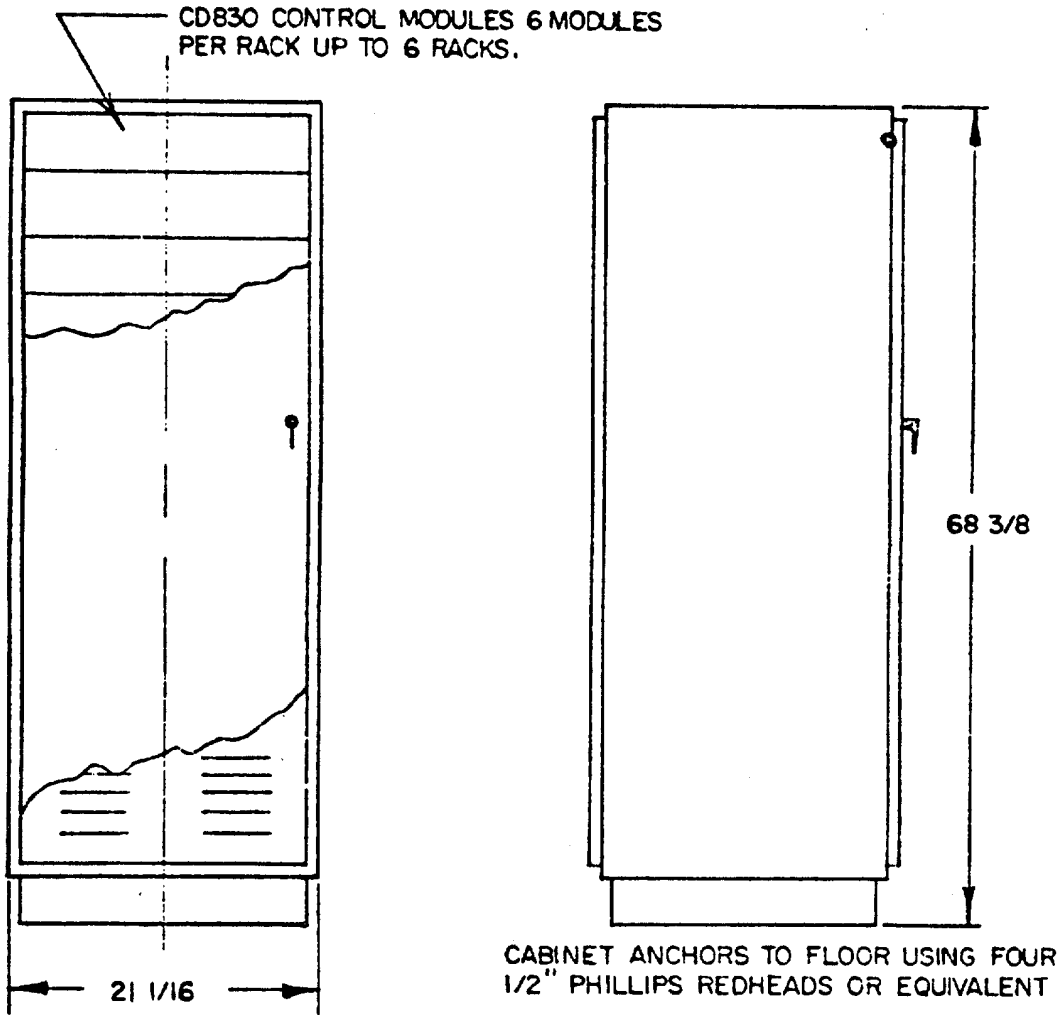

Figure 2-9. CD830F Floor-standing Instrument Cabinet
- 2-4.7 **CD830F, CD832F** (up to 36 control units in Emcor No. FR126A instrument cabinet): Procedures for installation of the CD830F cabinet (with control units preinstalled) include placement of the cabinet where desired and the installation of conduits for power and detector cables. Conduits may enter the cabinet through either top or bottom of enclosure. Cabinet dimensions are shown in Figure 2-9.